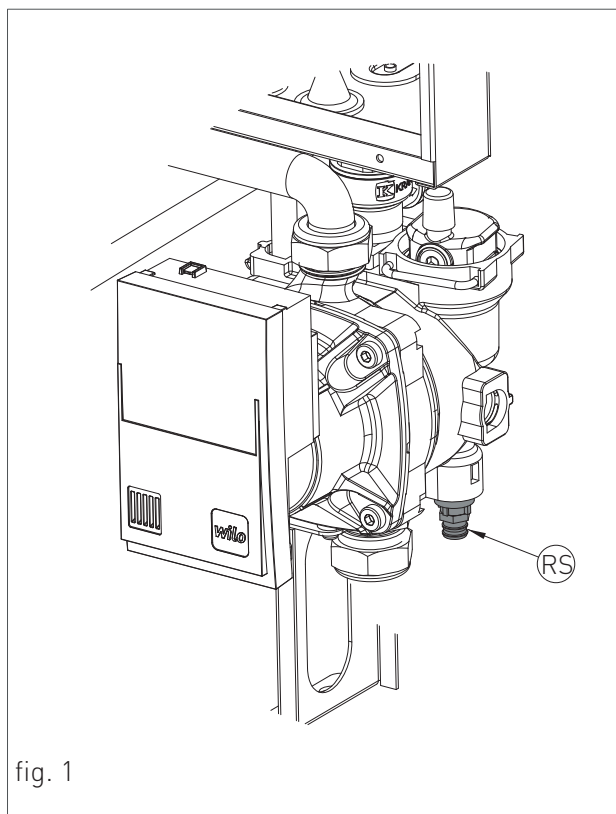

fig. 1
- › Grab panel '3' (fig. 1) from the upper side and rotate it downwards. To remove the panel, unscrew the fixing screws from the inner part of the panel.
- › Follow the procedure described at chapter 'ACCESSING THE BOILER' and rotate panel '2' (fig 1);
- › turn the discharge tap of the system ‘RS’ (fig. 1);